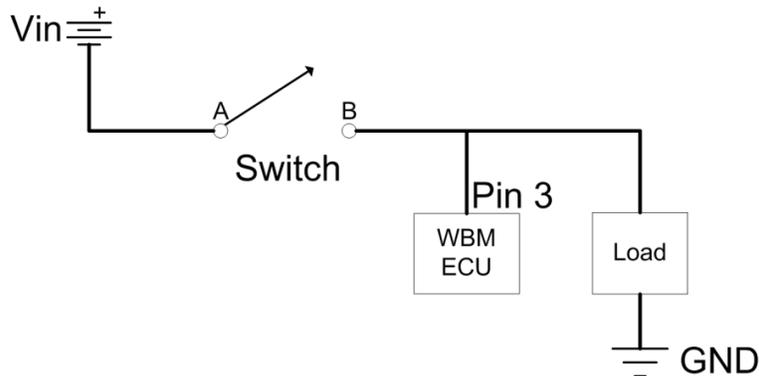

Figure 49: Finished Setup
6. Connect the work switch power wire to the switch's wiring harness anywhere after terminal B, as shown in Figure 49.